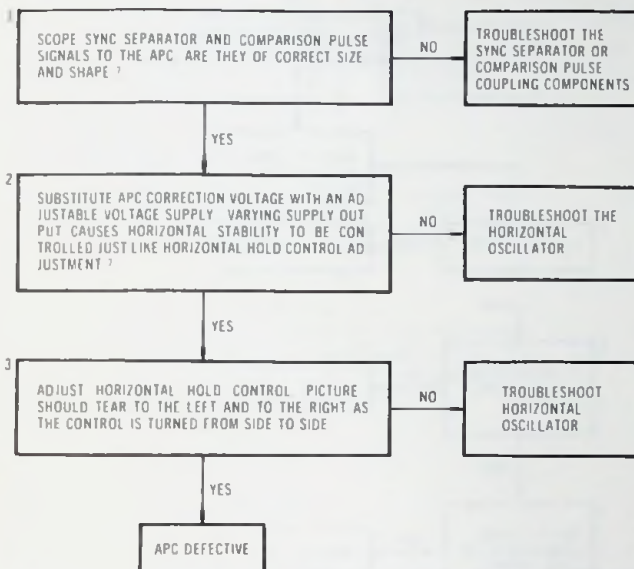

Fig. 4-25. Horizontal tearing.
2. Tearing picture as seen in Fig. 4-25.
sync—it is bent as shown in Fig. 4-25. To troubleshoot apc use Chart 4-2.